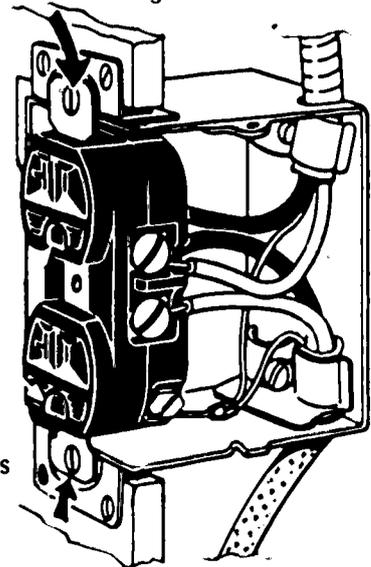

FIGURE 1
- B. Square up the device or devices (Figure 1)